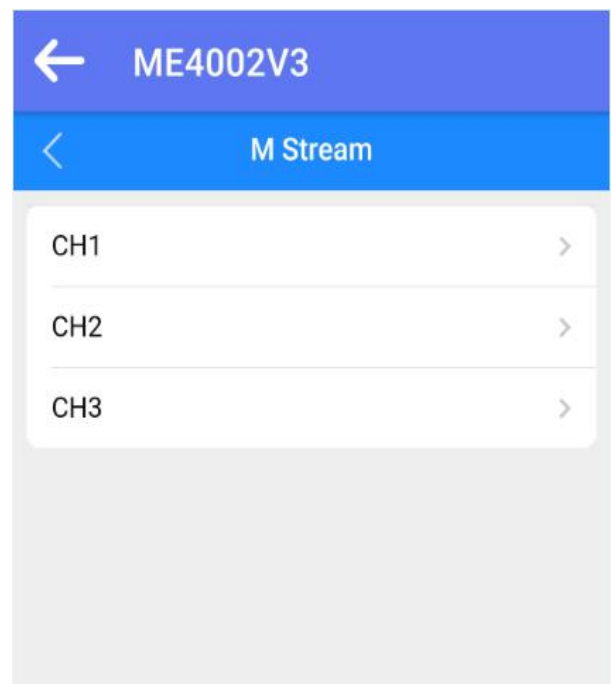

Fig.3.6 Main stream
Step 2: Select **Video** → **Main stream**. (Fig.3.6)